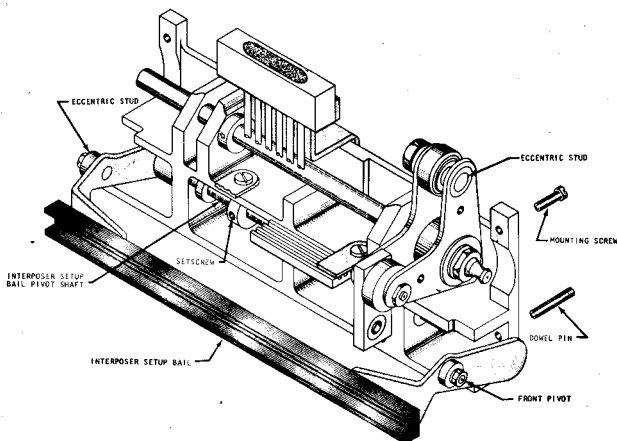

Figure 45. Cam Follower Unit
3. With the cam followers adjusted to the .002" feeler gage, check to see that a .005" feeler gage will not pass freely between any cam follower and its respective cam surface at *any* point around the cam circumference. If this .005" adjustment cannot be met, check to see if the punch marks on the eccentric studs are up (these studs can be interchanged by mistake, in which case the punch marks would be down, making it impossible to adjust the followers properly) (Figure 45).
4. Remove the two dowel pins in the cam follower mounting plate (Figure 45).
5. Remove the four mounting screws (Figure 45).